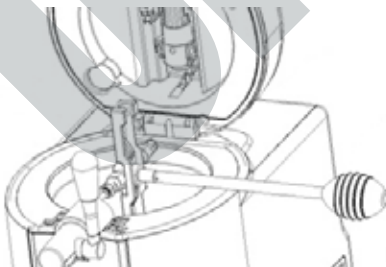

Fig. 11
13. Connect the tap unit to the beer hose, taking care that the tap tube sticks out of the appliance to the side, as shown in Fig. 11.